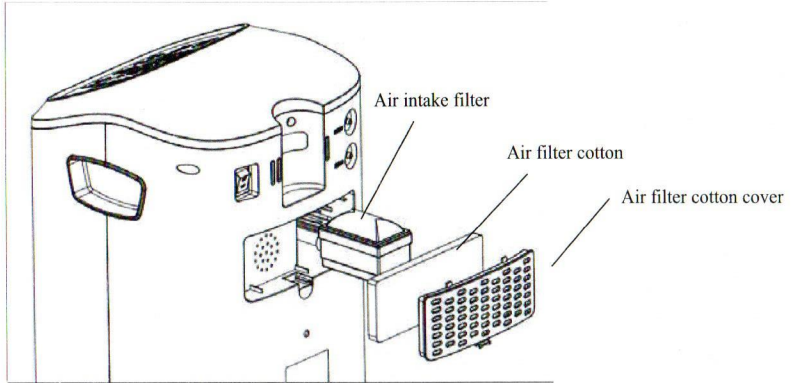

Fig. 16
1. Remove the air filter cotton (Fig. 16)
1. Remove the used air intake filter (Fig. 16).